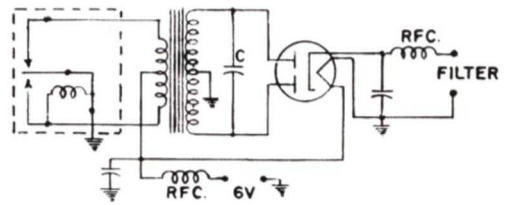

Figure 1
A typical nonsynchronous vibrator supply is shown in Figure 1. The vibrator is a reed with heavy contacts that switches the current from one side of the primary of the power transformer to the other. The reed is driven by a small magnet coil in one direction, and then springs back by itself to make the other contact—in a manner similar to the common door bell.
This action produces the effect of square-wave a-c excitation of the primary circuit—which of course is carried over to the secondary. See Figure 2 (A). Capacitor C in Figure 1 absorbs the inductive kick which occurs when the current flow is reversed. (If not suppressed, this kick would put “spikes” on the edges of the square wave, produce high surge currents through the rectifiers and cause sparking at the vibrator contacts.)